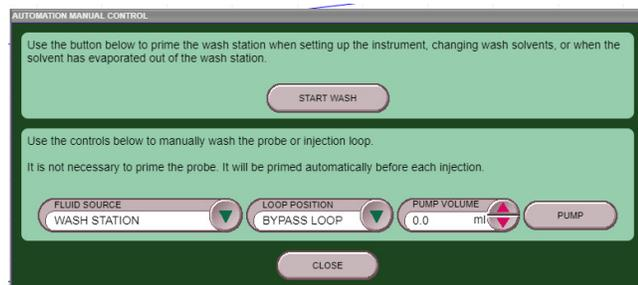

Figure 1: Automation Manual Control Screen
- When using the AutoSampler be sure the wash reservoir is full by washing the sample probe via the AUTOMATION MANUAL CONTROL interface as shown in Figure 1.